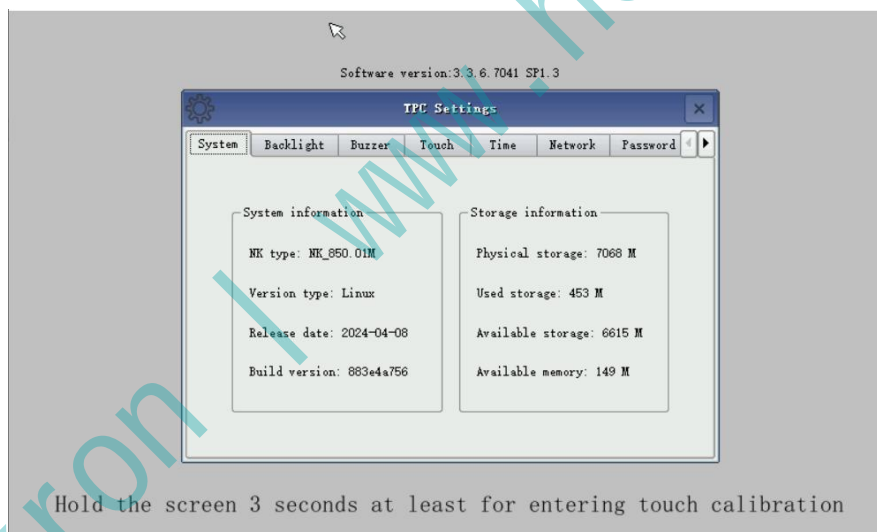

Figure 7.26: TPC System Settings Interface
- 4) Once you have successfully accessed the system configuration interface, please click "System Parameter Configuration." Upon clicking, the "TPC System Settings" interface will appear (as shown in Figure 7.26).